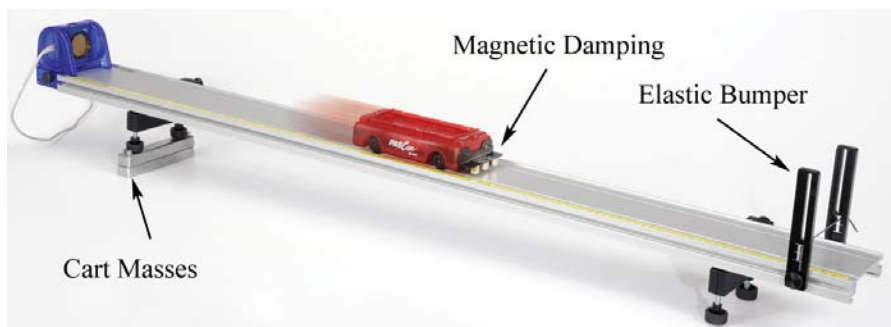

Figure 1. Cart moving at constant velocity down the inclined plane
1. Set up the track as shown in Figure 1 with the Elastic Bumper and feet. Note that the Motion Sensor is on the end of the track that is the zero point for the yellow rule.
7. Use the two Cart Masses (see Fig. 1) to incline the track.